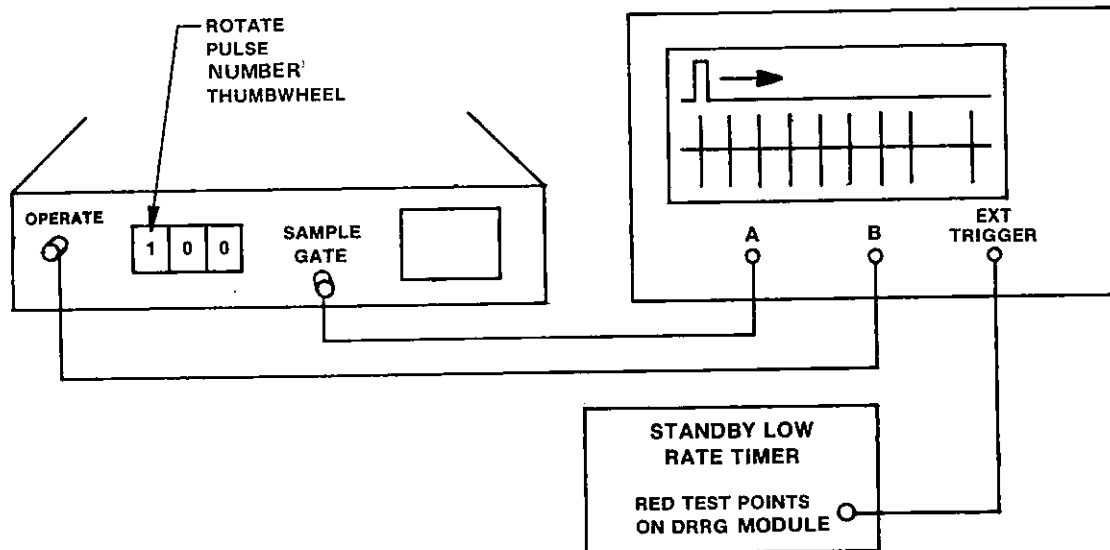

Figure 2.16. Sample Gate Versus Operate RF
2.6.3.3 Monitor the Sample Gate and Operate RF on the oscilloscope (see Figure 2.16). Trigger the oscilloscope from the red test point (TP7) on one of the DRRG modules in the standby low rate timer. The Sample Gate should move from pulse to pulse as the pulse select thumbwheel is rotated from one (1) to nine (9) for master, and from one (1) to eight (8) for a secondary station.